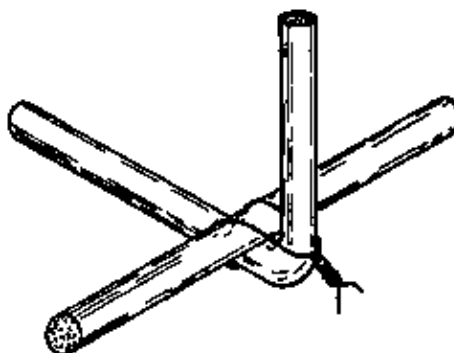

Fig. 2a STIRRUP TO MAIN BAR
– BINDING: The members must be bound together in order to ensure that the bars remain in the correct positions while the concrete is being poured. Binding wire is bound around pieces at the connections (Figs. 2a & 2b). The wire should be stretched taut and then twisted tight with the pincers.